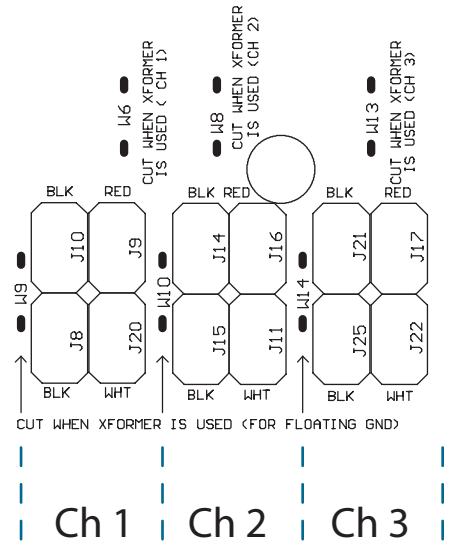

Figure 3. Jumpers
10. See Figure 3. The + (hot) jumper *must be cut* when a transformer is installed. The - (gnd) jumper may be cut for a fully isolated secondary *or* left in for a ground referenced secondary. There are two wire jumpers for each Channel: